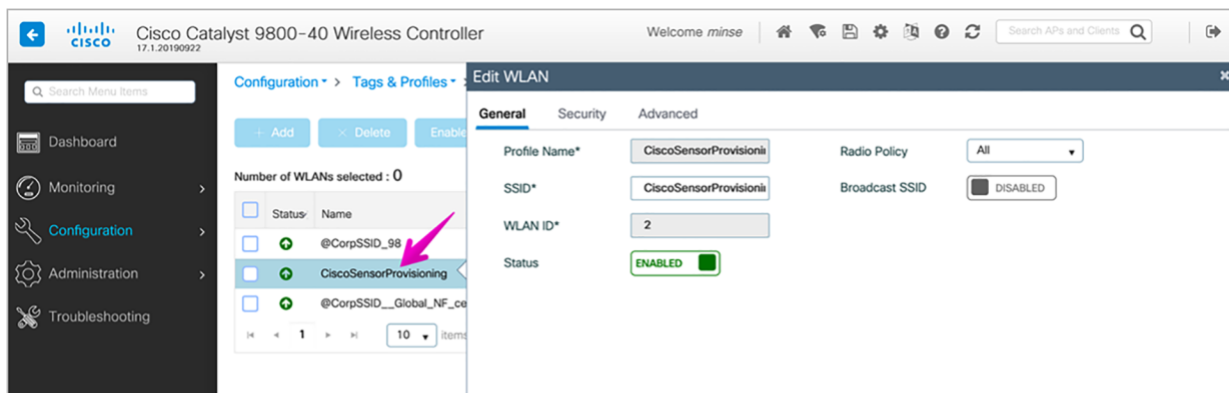

Figure 17.
- d. After provisioning is enabled, the network administrator can view the newly added SSID from Configuration > Tags and Profiles > WLANs (**Figure 17.**).